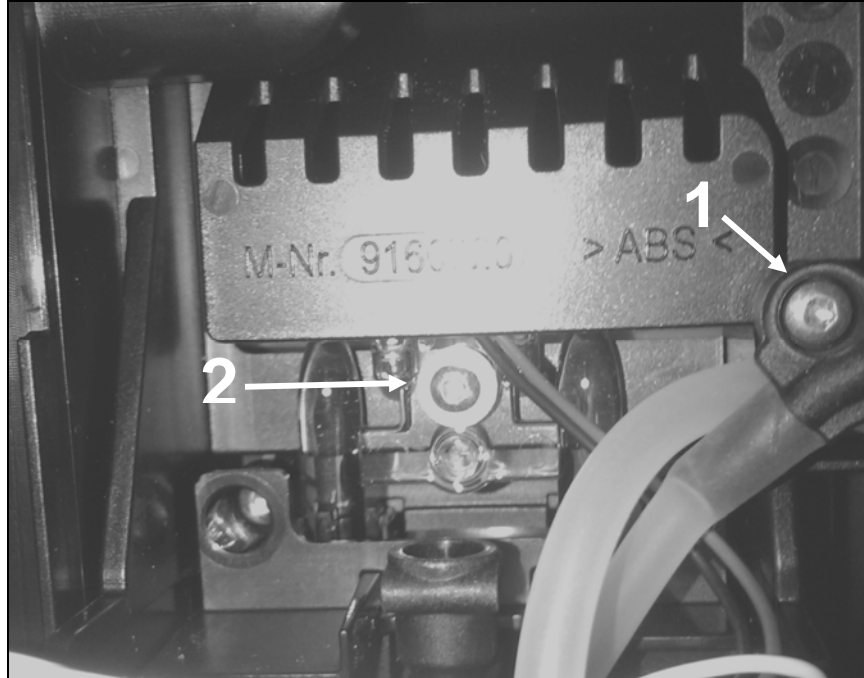

Figure 001-53: Hose Bracket and Lighting Assembly
8. Remove the T10 screw securing the hose bracket in front of the lighting assembly (Figure 001-53, Item 1) and take off this bracket.
9. Remove the T10 screw and washer securing the lighting assembly (Figure 001-53, Item 2).